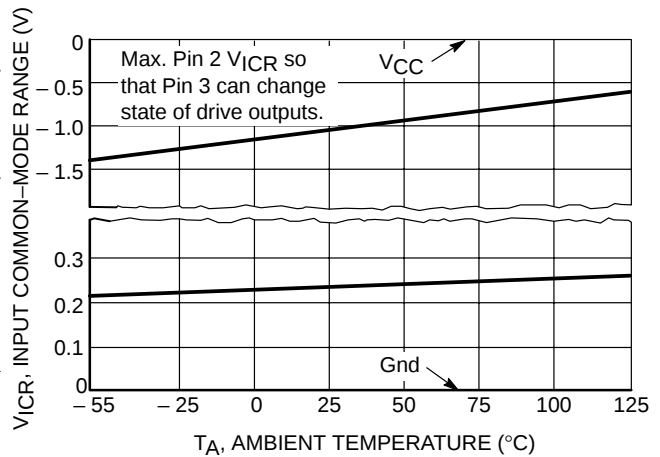

Figure 4. Window Detector Reference-Input Common-Mode Voltage Range versus Temperature
3. The upper or lower hysteresis will be lost when operating the Input, Pin 3, close to the respective rail. Refer to Figure 4.
It must be remembered that points V_1 through V_4 always try to follow and center about the reference voltage setting if it is within the input common-mode voltage range of Pin 3; Figures 4 and 5. Initially consider that the feedback input voltage level is somewhere on the dashed line between V_2 and V_4 in [1]. This is within the dead zone range as defined above and the motor will be off. Now if the reference voltage is raised so that $V_{Pin\ 3}$ is less than V_4 , comparator B will turn-on [3] enabling $\bar{Q}$ Drive, causing Drive Output A to sink and B to source motor current [8]. The actuator will move in Direction B until $V_{Pin\ 3}$ becomes greater than V_1 . Comparator B will turn-off, activating the brake enable [4]